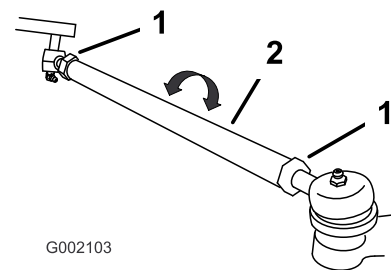

Figure 12
2. If the measurement does not fall within the specified range (refer to the dimensions and parameters at the beginning of this procedure), loosen the jam nuts at both ends of the tie rods (Figure 12).